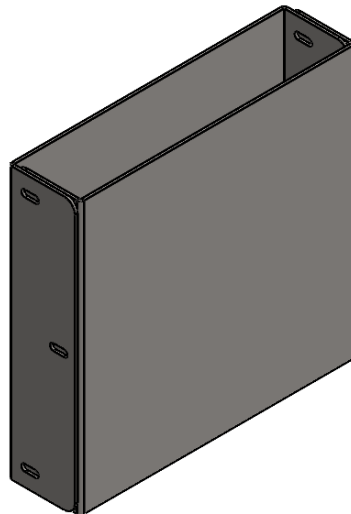

Figure 1 HEADER PROJECTION BRACKET PACKAGE
1. Find the package of Header Projection Mount Brackets, and a bag with screws, nuts and Velcro strips. (Figure 1 HEADER PROJECTION BRACKET PACKAGE)